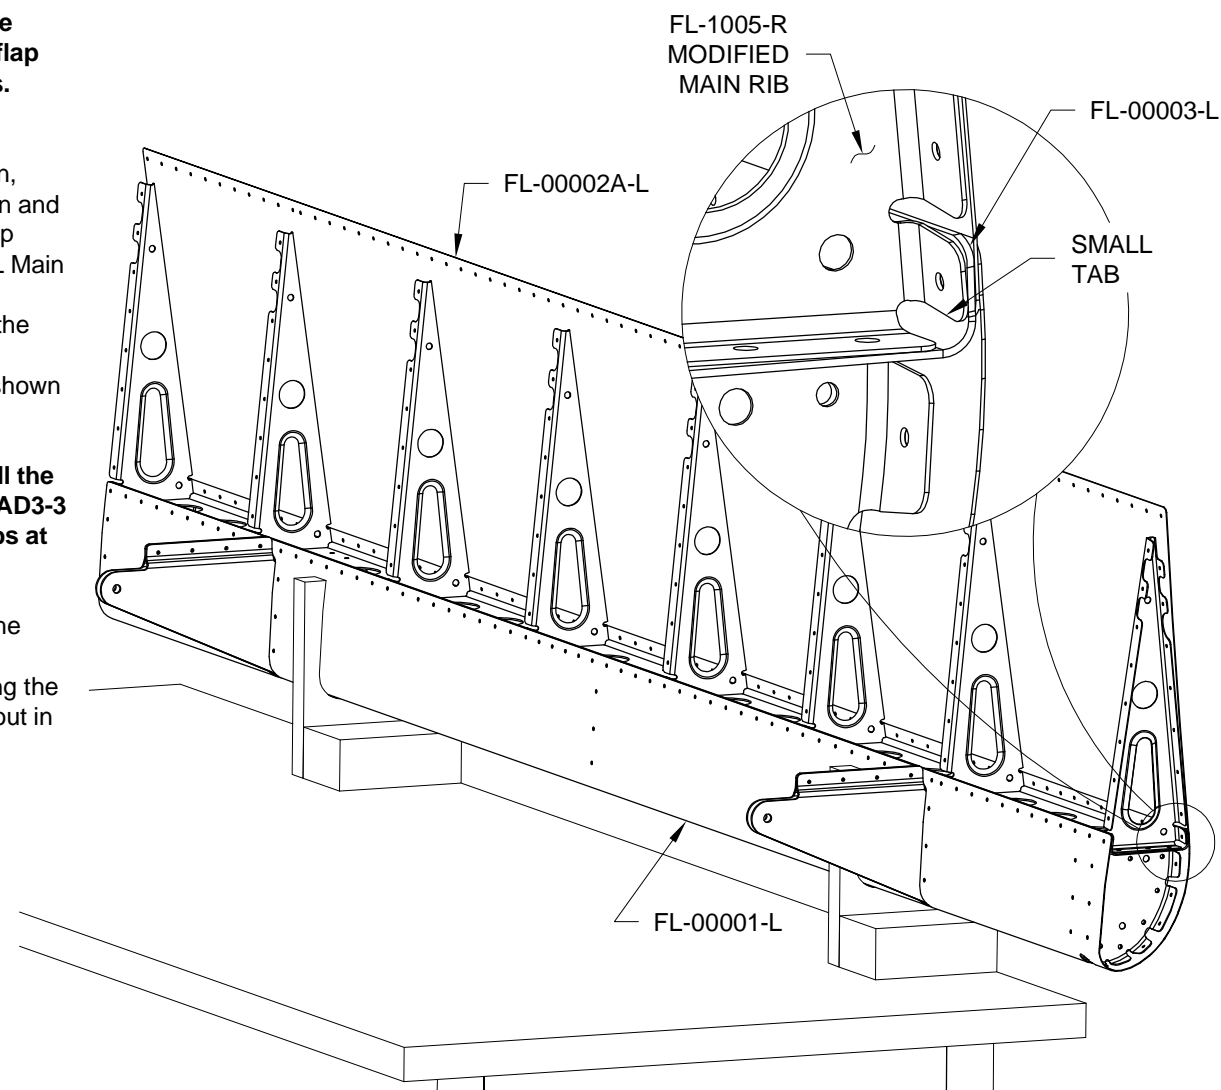

FIGURE 1: RIVETING NOSE AND TOP SKIN
Step 1: Rivet the FL-00001-L Nose Skin, FL-00002A-L Top Skin and the small tab at the top front of the FL-1005-L Main Ribs and FL-1005-R Modified Main Rib to the top flange of the FL-00003-L Spar as shown in Figures 1 and 2.